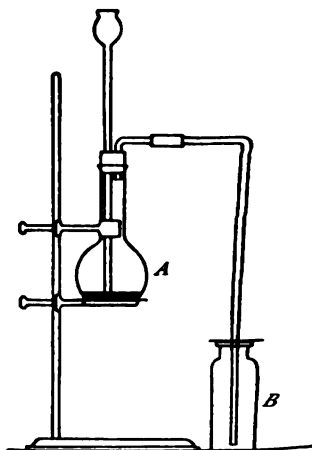

FIG. 33
**63. Preparation of chlorine.** (*All the following experiments must be performed in the hood, and great care taken not to inhale the gas.*) *a.* Place about 1 g. of manganese dioxide in a test tube, add 2 or 3 cc. of hydrochloric acid, and heat *gently* (R).
*c.* Repeat experiment *a*, replacing the hydrochloric acid with small amounts of common salt and sulfuric acid. The manganese dioxide and salt should first be mixed together and the sulfuric acid added to the mixture. Compare the reactions in *a* and *c* (R). Which of the two methods is the cheaper for preparing chlorine? Give reason for your answer.
*d. Usual laboratory method* (two students working together). Arrange an apparatus according to Fig. 33, using a 250-cc. flask. Thoroughly clean and dry five wide-mouthed bottles (250-cc.) for collecting the gas. Place in the flask from 20 to 25 g. of manganese dioxide. Insert the cork and pour 150 cc. of hydrochloric acid through the funnel tube. Shake the flask so as to thoroughly wet the